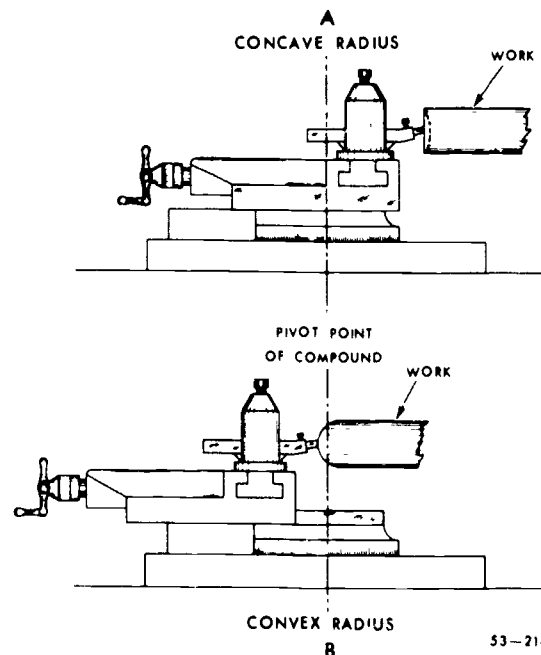

Figure 5-14. Machining a taper with the compound rest.
**Compound rest.** When you use this method, the compound rest and tool are swung from side to side in an arc. Form the desired radius by feeding the tool in or out with the compound slide. You can turn either a concave radius by positioning the tool in front of the pivot point, as shown in figure 5-14,A, or a convex radius by positioning the tool behind the pivot point, as shown in figure 5-14,B.